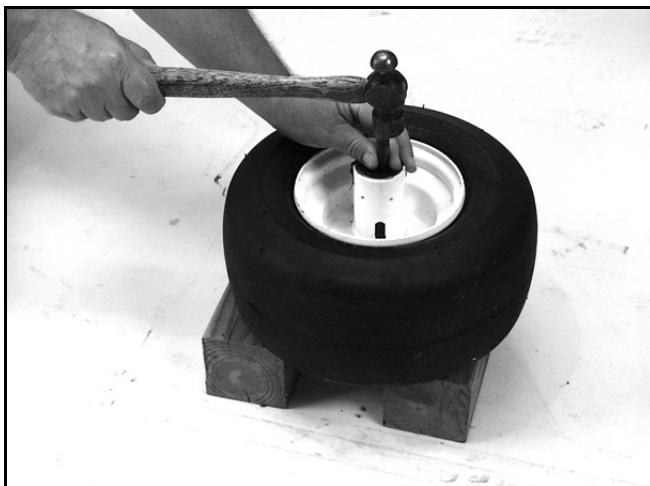

Figure 102
7. Drive the bearing race out from the opposite side of the wheel using a long drift (Figure 102).